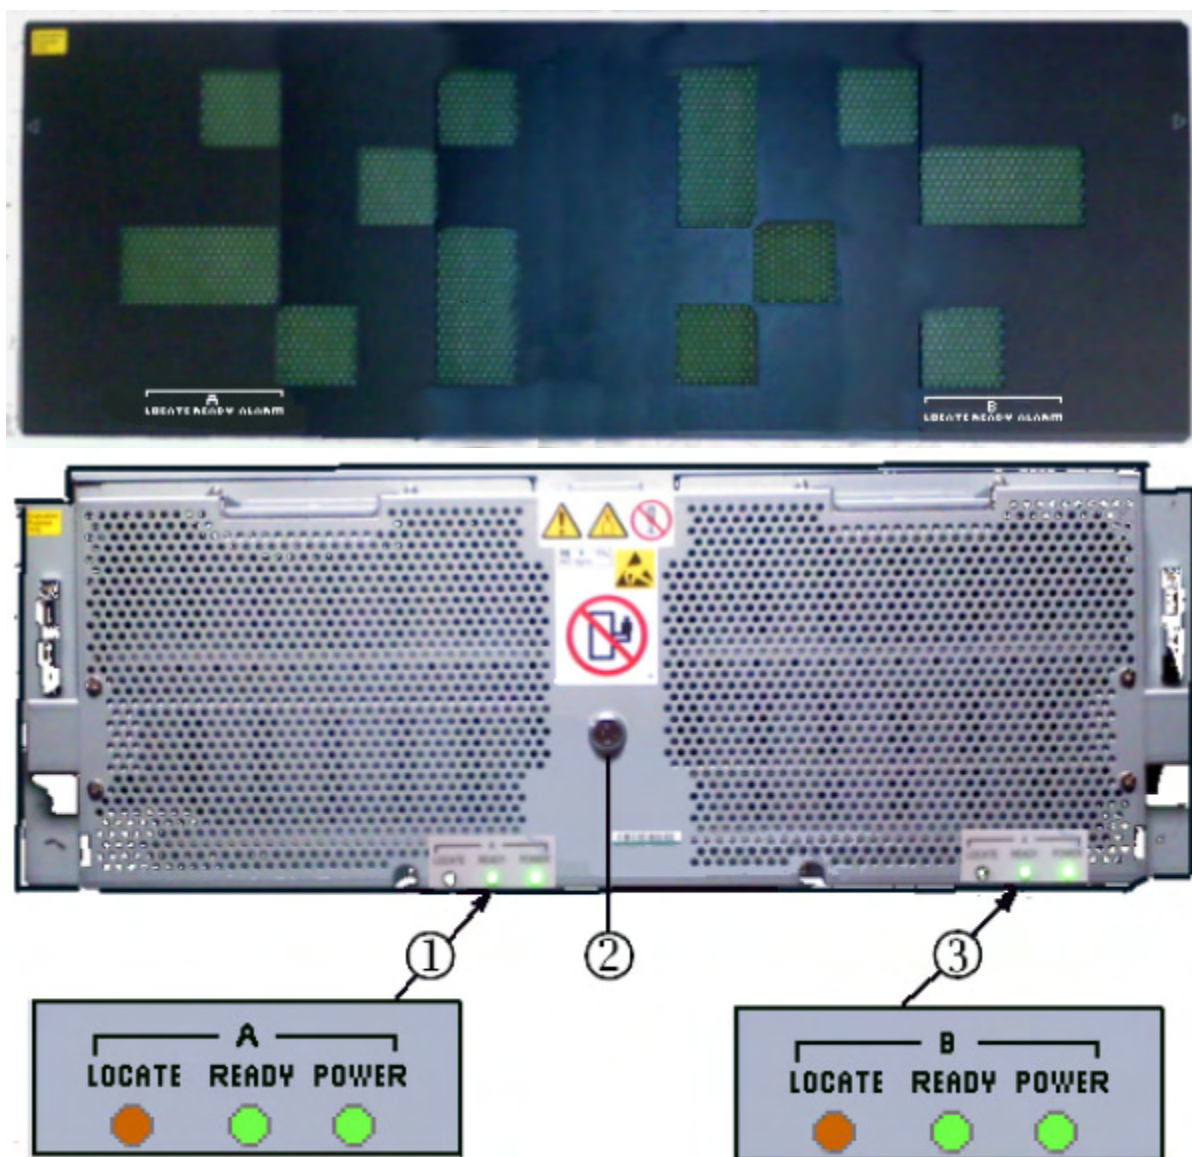

Figure 1-9: DBX (dense) drive box front bezel and front panel
- **DBX** - a "high-density" 4U high box containing up to 48 vertically mounted 3-1/2-inch (LFF) drives. This drive box is functionally divided into two separate drive units (A and B), each containing a maximum of 24 drives. Each drive unit contains two redundant power supplies and two ENC adapter boards that are used to connect the box to the controller. the connection to the controller may be direct via ENC cable or via a daisy-chain connection through the ENC adapters in other drive boxes See Figure 1-9: DBX \(dense\) drive box front bezel and front panel on page 1-12 and Figure 1-10: DBX \(dense\) drive box rear panel on page 1-13.